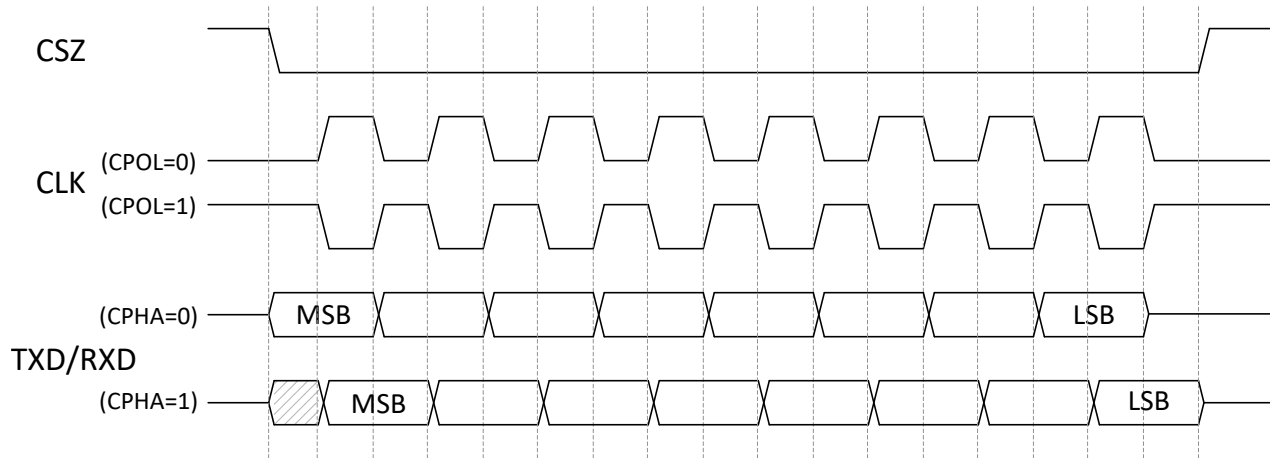

Figure 6-12. Timing Diagram for SPI Clocking Modes
- (1) The DLPC6540 SPI interfaces support SPI Modes 0, 1, 2, and 3 (that is, both clock polarities and both clock phases) as shown in Table 6-2 and Figure 6-12. As such, each SPI interface configuration must be setup to match the SPI mode being used.
- (2) In most SPI applications, one clock edge is used by both master and slave devices for transmitting data while the other edge is used by both for sampling received data. This is referred to as *Standard SPI Protocol*. To maximize the SPI_CLK frequency potential, SPI masters can alternatively be designed to sample the data in (MISO) bit on the same clock edge used to transmit the next data out (MOSI) bit. This is referred to as "Enhanced SPI Protocol". The DLPC6540 SPI master implementation supports both protocols (part of